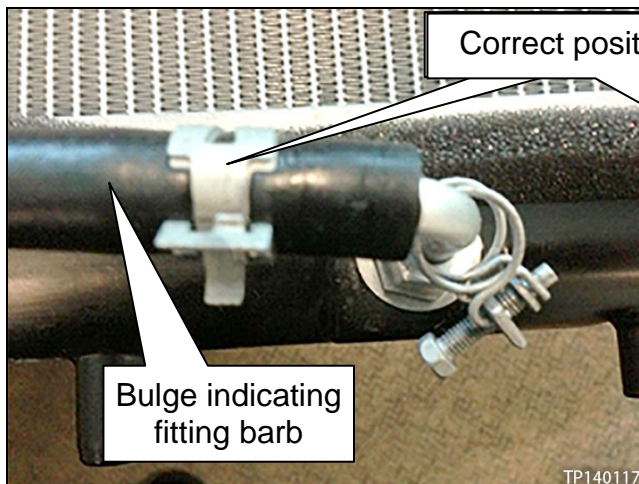

Figure 5
9. Position the spring clamps at the CVT and radiator cooler (Figures 5 and 6) as close as possible to each fitting bulge.